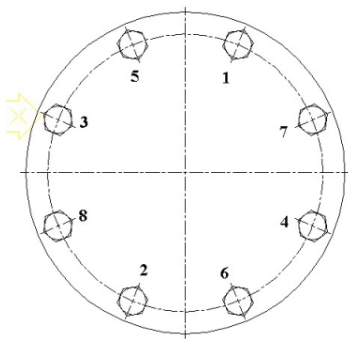

Figure 2
3. After the duckbill check valve and retaining ring (where applicable) are in the correct position, push two (2) bolts through to ensure alignment. After the proper alignment has been obtained, install the remaining nuts and bolts using washers at the split holes (if the Check Valve comes with a retaining ring).
4. Use two wrenches when installing the Check Valve. Tighten all flange bolts in a criss-cross pattern similar to the one shown in Figure 2 to the maximum torque recommended in Figure 3.
3. After the duckbill check valve is in the correct position, push two (2) bolts through each of the mating pipe flanges/check valve flange to ensure alignment. After the proper alignment has been obtained, install the remaining bolts and nuts.
- a. For CPJ Split Body Design - On the upstream flange of the duckbill check valve, (where the duckbill's rubber flange will mate to the upstream pipe flange) - tighten all flange bolts in a criss-cross pattern similar to the one shown in Figure 2 to the maximum torque recommended in Figure 3.